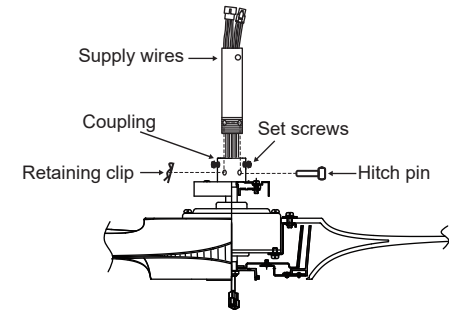

Fig. 9
Step 6. Loosen the two set screws and remove the hitch pin and retaining clip from the coupling on top of the motor assembly. (Fig. 9)
Step 7. Carefully feed the electrical lead wires from the fan up through the downrod. Thread the downrod into the coupling until the hitch pin holes are aligned. (Fig. 9)
Step 8. Next, replace the hitch pin and retaining clip. Tighten both set screws. (Fig. 9)